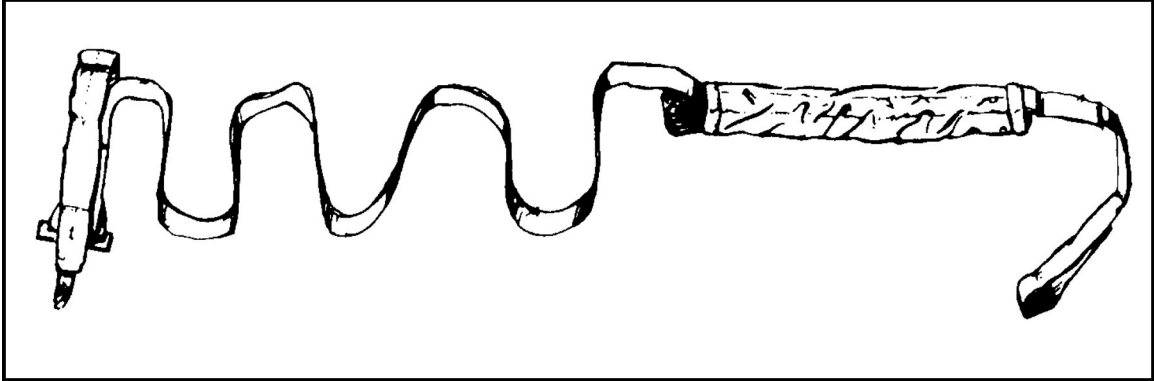

Figure 12-57. HPT lowering line stowed for tandem load.
- d. Secure the pile extension on the retainer flap to the hook tab at the looped end of the lowering line (Figure 12-57).